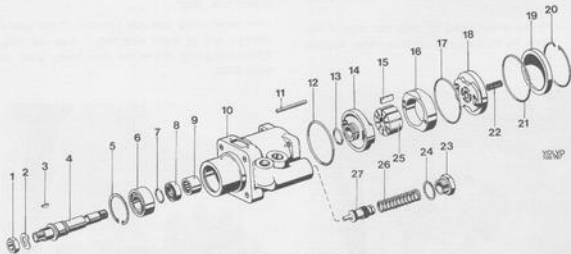

Fig. 6-104. Power pump disassembled
1. Unscrew the nut (1, Fig. 6-104) and pull off the pulley. If necessary use puller 2279. Remove the brackets.
1. Check the shaft (4, Fig. 6-104) for scoring from the sealing ring and needle bearing. Check the threads and lands for damage. If the bearing (6) is damaged, it can be removed after the circlip (7) has been taken off.
2. Check the needle bearing (9) and replace if necessary.
4. Check the rotor (25), intermediate piece (16) and blade (15) for wear. The blade should go easily into the rotor. These parts are replaced together in sets.
5. Check that the control valve piston (27) does not jam in the housing bore. Make sure that the piston has the same tolerance group as the housing, that is, that the numbers agree ("1" and "2" or "11").
1. Press the needle bearing (9, Fig. 6-104) into the housing with the help of drift 2996, see Fig. 6-107. The bearing should be pressed in until the tool bottoms so that the needle bearing outer edge is 37.0—37.2 mm (1.45—1.46") from the edge of the housing.